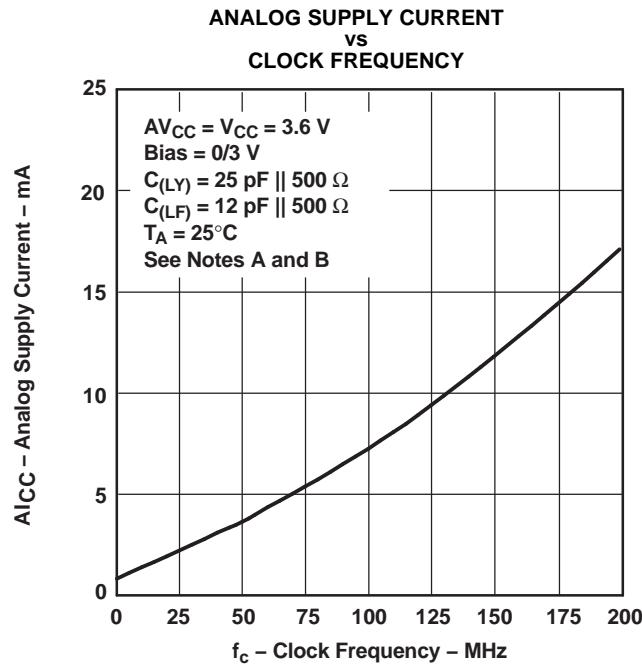
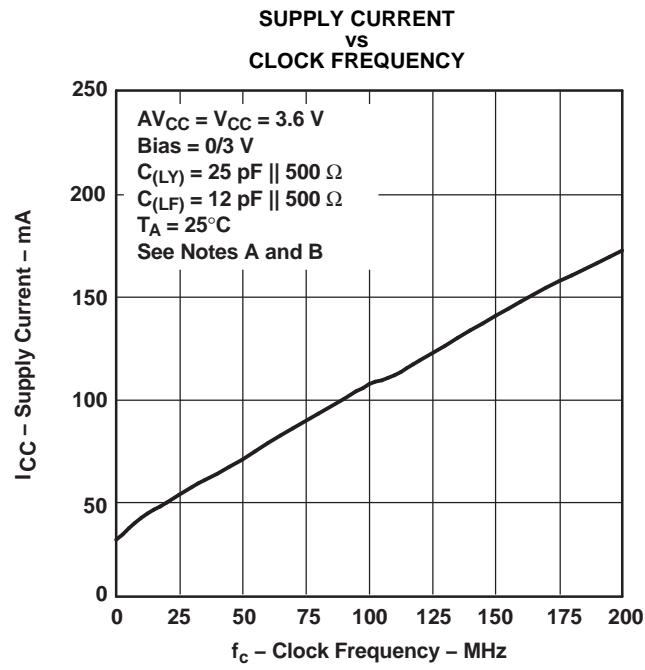

Figure 9.
Figure 10.
(1) For conditions shown as MIN or MAX, use the appropriate value specified under recommended operating conditions.
(2) For dynamic  $I_{CC}$  vs Frequency, see Figure 9 and Figure 10.